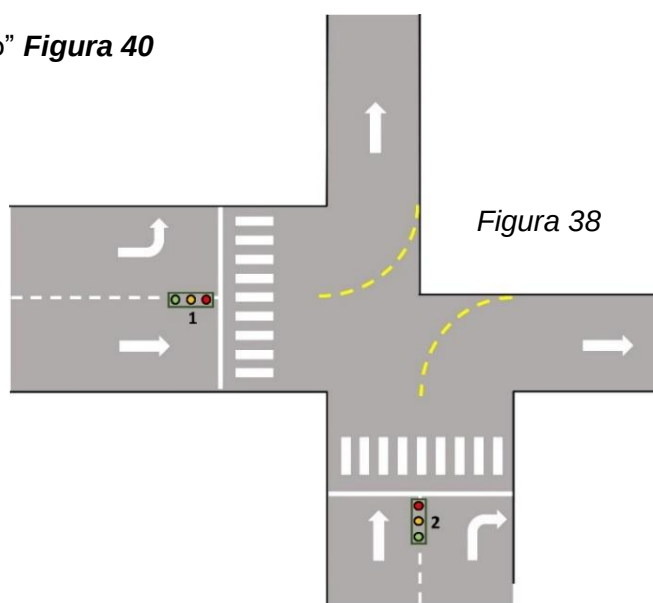

Figura 38
- “Draft Layout_2 luci” **Figura 38**